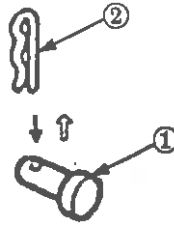

Fig. 1
- 3) Drive connecting pin through the boom connection from outside to the inside of the boom. Install spring pins (② in Fig. 1) in one end of boom connecting pins. See Fig. 1.
- 3) Remove the outside spring pin (② in Fig. 1) from boom connecting pin. Drive connecting pin from the outside to the inside of the boom to remove the connecting pin.
- ① Basic Pendants
- ② Bridle
- ③ Gantry
- ④ Boom Backstops
- ⑤ Boom Lower Section
- ⑥ Boom Upper Section